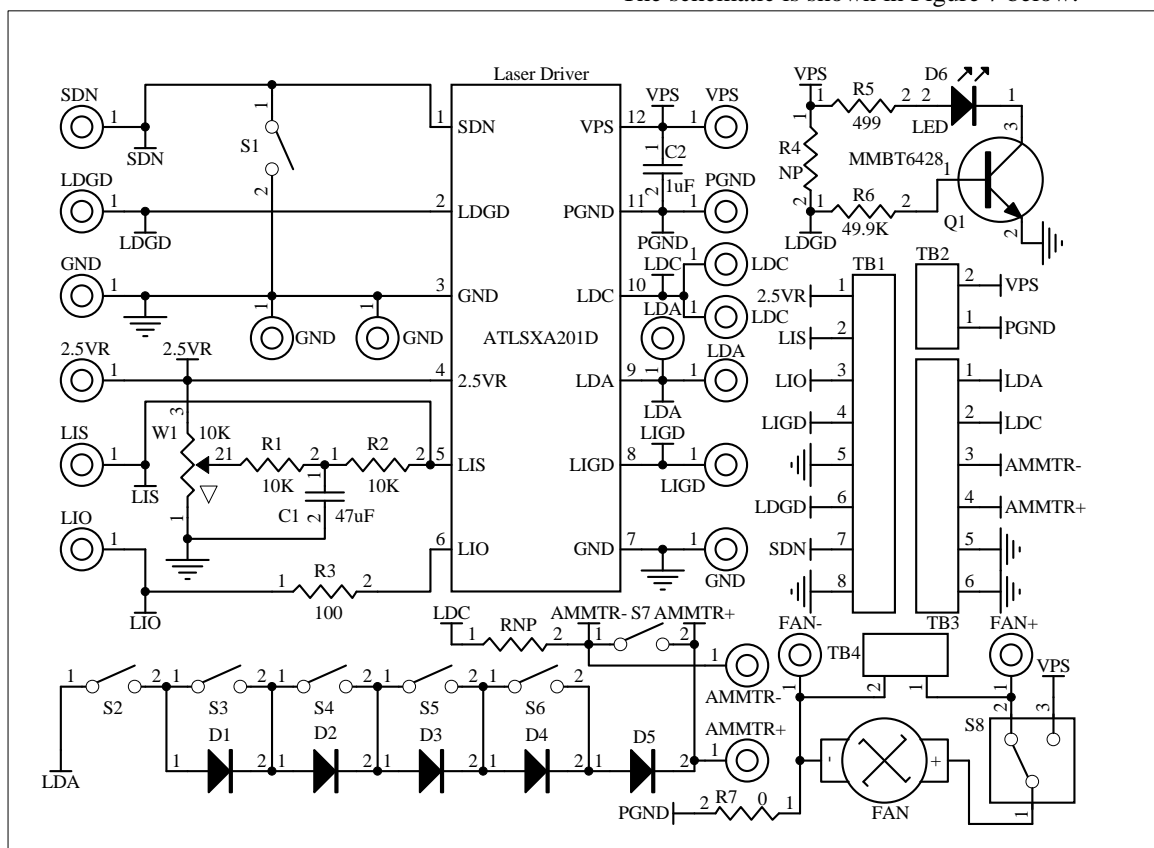

Figure 7. Schematic of Laser Driver ATLS201D Evaluation Board Rev. 1.0
The schematic is shown in Figure 7 below.
- B. Turn the switch S7 to its lower off position, thus the output current can go through the ammeter and be measured by reading Ammeter's value.; when the switch S7 is placed in the upper on position, the ampere meter is shorted, thus, it does not measure the output current, see the schematic shown in Figure 7.
6. Test the driver with the “dummy laser”. The 5 diodes on the board, D1 to D5, can form a “dummy laser” to act as the laser diode in place of a real laser so that in case there is a problem in the circuit, the expensive laser would not be damaged, see schematic in Figure 7. Turn the switch S2 to the on position (upper), to connect the “dummy laser” to the driver. Turning switches S3, S4, S5 and S6, up and down will increase (turning down the switches) and decrease (turning up the switches) the forward voltage of the “dummy laser” which can be measured by a volt meter between the LDA and the ground. Each diode can increase or decrease the output forward voltage by about 0.7V when the output current is 4A. **Warning: when output 4A current, the diodes may get very hot, don't touch them with your fingers.** The switch bank and their corresponding diodes are shown in the table below. The diode D5 is always activated so that the total forward voltage range is from 0.7V to 0.7V + 0.7×4 = 3.5V. Please be aware of this fact: when the output voltage is low by shorting circuit all the diodes, the driver will consume a lot of power and may get too hot that the internal temperature protection circuit will shut off the driver automatically. When this happens, wait for a few seconds, let the driver cool down, the driver will restart by itself again after the temperature is lowered to certain level. This is the way to calculate the power consumption of the driver: